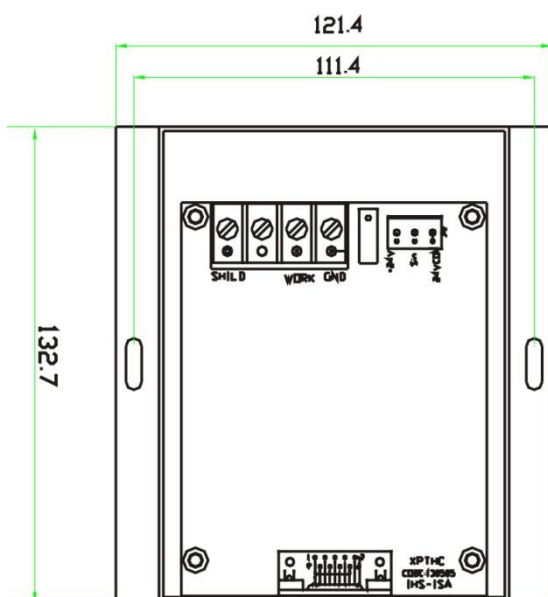

Figure 1-8: Isolation IHS controller
4、Isolation IHS controller:as figure 1-8 it install in the top of the lifter , convenience to connect the touchedcontact IHS cable and proximity switch IHS cable.